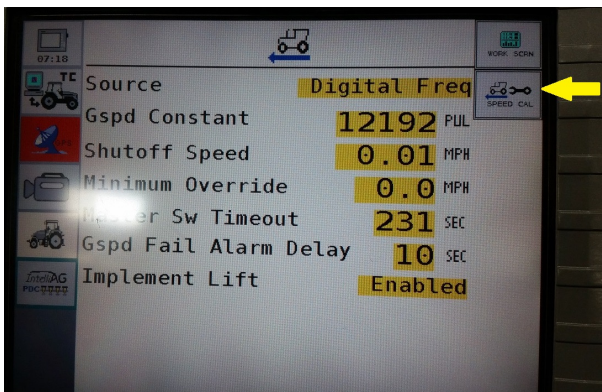

Figure 69
Step 4. Push **Speed Cal**. (Figure 69)